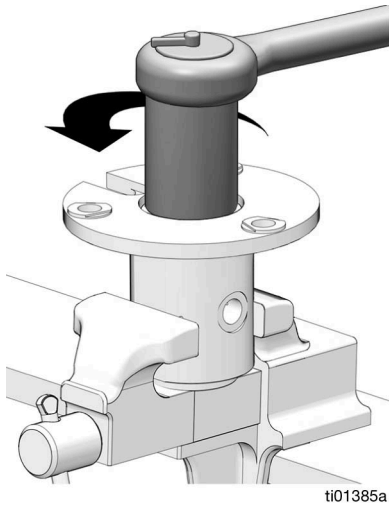

FIG. 15
16. Use a 2 in. socket to loosen and remove the throat seal retainer nut (19) (FIG. 15).